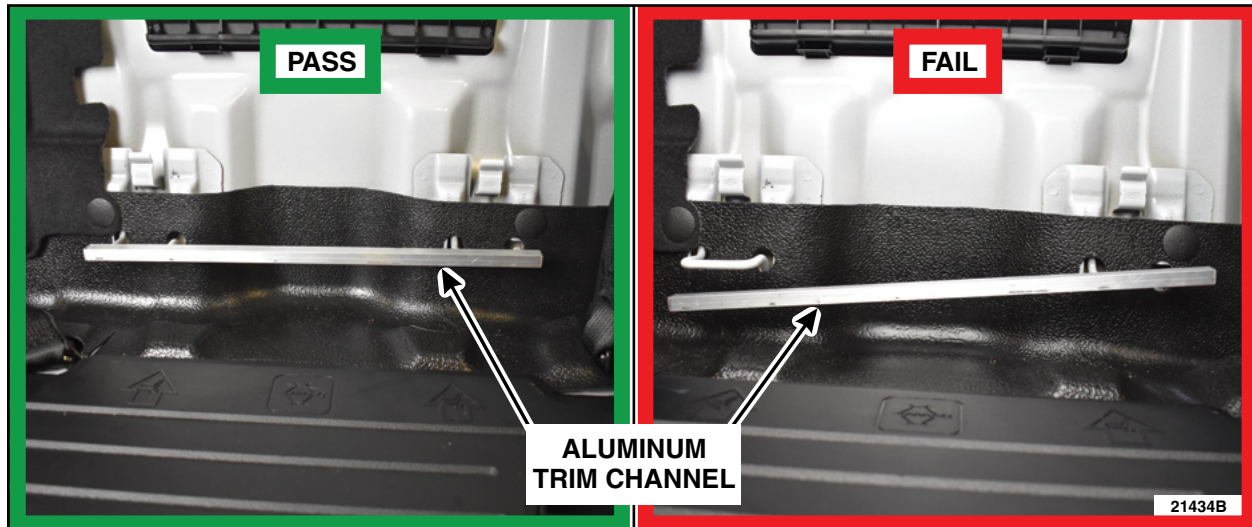

FIGURE 7
8. Place the 1/4 inch (6.35 mm) aluminum trim channel over the adjusted child restraint anchor(s). Does the affected child restraint anchor(s) fit within the aluminum trim channel? See Figure 7.